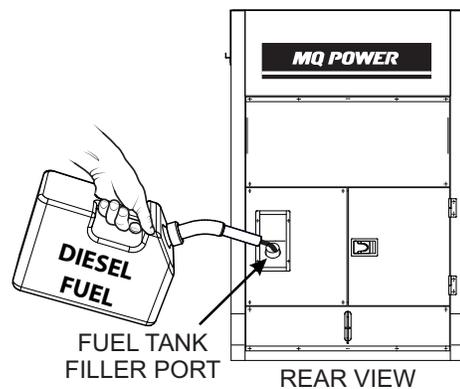

Figure 30. Fueling The Generator
2. Remove the fuel cap and fill the tank as shown in Figure 30.